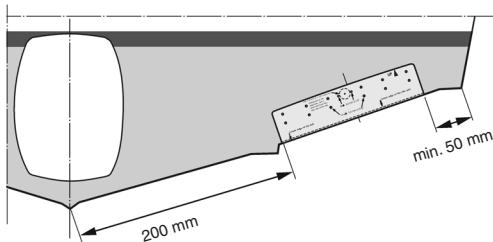

Fig. 11
The interceptor units (C) figs. 1 and 4 are attached to the transom close to the hull bottom. The precise position is determined by the template included in the delivery (see below for detailed instructions). The further outboard the interceptor units are mounted, the greater the side-to-side maneuverability. Position the interceptor at least 50 mm from the chine towards the boat's centerline. Boats with outboard motors, Aquamatics or waterjets must have at least 200 mm between the drive unit centerline and the closest edges of the interceptor units. See Fig. 11.